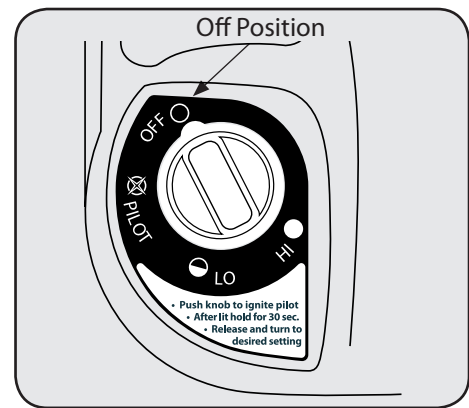

Figure 1
1. Make sure four-position Control Knob is in "OFF" position. See Figure 1.
1. Make sure four-position Control Knob is in "OFF" position. See Figure 1 on previous page.